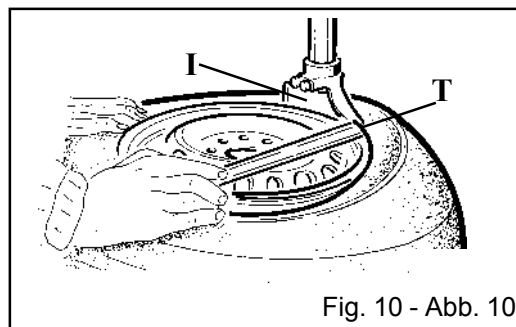

Fig. 10 - Abb. 10
• Lower the mounting bar (M) until the mounting tool rests against the edge of the rim and lock it using the lever (K). This way the arm is locked in a vertical direction and the mounting head is moved to a distance of about 2 mm from the rim. Once the arm has been locked in a vertical direction, the mounting head must be moved away manually from the rim (about 2 mm) using the handwheel located on the left section of the horizontal arm.
• With the lever (T) inserted between the bead and the front section of the mounting head (I), move the tyre bead over the mounting head (Fig. 10). **Note:** In order to avoid damaging the inner tube, if there is one, it is advisable to carry out this operation with the valve about 10 cm to the right of the mounting head.
• With the lever held in this position, rotate the turntable (Y) in a clockwise direction by pressing down on pedal (Z) until the tyre is completely separated from the wheel rim.